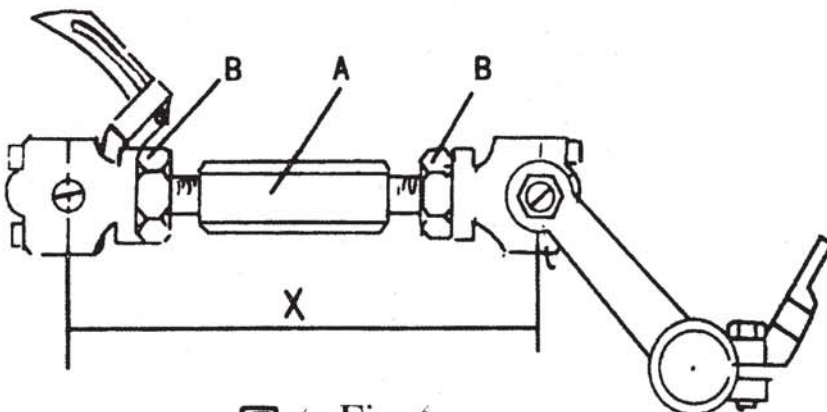
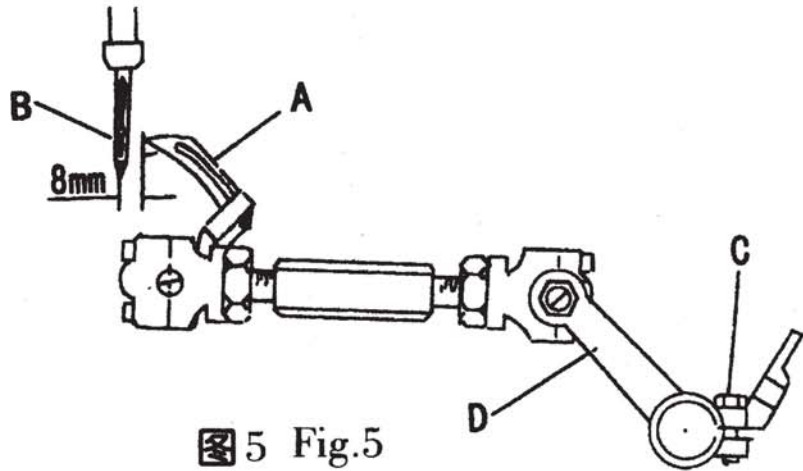
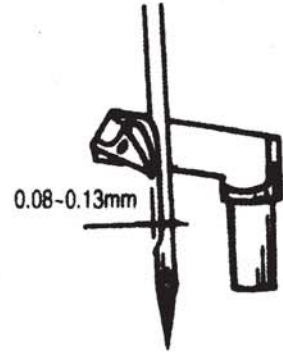
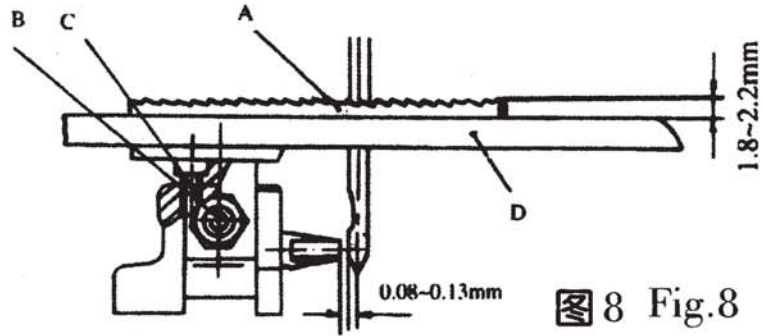

图4 Fig.4
图5 Fig.5
图6 Fig.6
图8 Fig.8
(一) 首先调节连接杆(图4, A),使两球轴承(X)中心线间距为69.8毫米($2\frac{3}{4}$ 英寸), 调节时拧松二个螺母(B), 顺旋或倒旋连接杆(A)使(X)距离符合要求后再锁紧螺母。
(1). First set the looper connecting rod(A, Fig. 4), so the distance (X, Fig. 4) between the centerlines of the two ball joints is 69.8mm(1 3/4 min.). For adjustment loosen the two nuts(B) and turn connecting rod(A) forward or backward as required to obtain specified dimension. Retighten nuts(B). Caution: The left nut has a left hand thread.
带轮, 使针杆下移至最低点, 同时弯针退至最右边位置, 此时弯针(图5, A)尖和机针(B)的中心线距离为8毫米($5/16$ 英寸)。调节时拧松弯针外曲柄的两只螺钉(C), 左右转动弯针外曲柄(D), 调节至需要的尺寸后再拧紧螺钉(C)。
(2). Rotate the machine pulley clockwise by hand, so that the needle bar moves to the lowest point, at the same time the looper moves back to its farthest position to the right. The distance from the point of the looper (A, Fig. 5) to the centerline of the needle is 8mm($5/16$ in). For adjustment, loosen two screws(C) in the looper drive lever, rotate looper drive lever(D) left or right as required to obtain specified dimension and retighten screws(C).
(三) 继续转动皮带轮, 使弯针(图5, A)从右向左运动时靠近机针背面的凹形处通过而不得接触, 其间隙为0.08毫米-0.13毫米(0.003至0.005英寸)(图6所示)。调节时拧松弯针小偏心摇杆(图4, C)的螺钉(图4, D), 按需要把弯针向前或向后摆动从而转动弯针架轴(图4, E)再拧紧螺钉(D)。
(3) Rotate the machine pulley so that the looper moves from right to left. The looper point should pass as close possible to the back of the needle without contacting 0.08-0.13mm(.003 to .005in.) (clearance). For adjustment loosen screw(D, Fig. 4) in the looper eccentric fork (C) and turn rocker shaft (E) on the looper rocker with looper forward or backward as required. Retighten screw (D).
缝纫时由于袋边接接处厚度不一致，往往会使机针刺在缝料厚薄交界处而弯曲或发生故障，而机针挡块(图5E)则可起到保护作用。两者的间隙为0.08~0.13毫米(0.003至0.005英寸)，(图8所示)。调整时将皮带轮按工作方向转动，使机针挡块靠近机针，拧松牙架上(图5, F)紧定螺钉(G)，移动机针挡块(E)至合适间隙后再拧紧螺钉(G)。
The needle will bend or break when abutting bags made of different thickness of sewing material. And the needle guard (E, Fig. 5) will protect the needle. The clearance between the needle and the needle guard is 0.08 -0.13mm(.003 to .005in.)(Fig.8). For adjustment, rotating pulley in the direction of operating, so that the needle guard moves against the needle. Loosen set screw(G) on feed dog holder(Fig.5), move the needle guard accordingly. Retighten screw (G).
根据缝料质量与厚度确定送料牙(图8, A)高度。对于布袋、塑料编织袋等薄料，齿面应高出针板(D)上平面约1.8毫米(0.070英寸)，麻袋约2.2毫米(0.090英寸)，调整时先将送料牙行至最高点，卸下针板和送料牙。按需要的高度调节支承螺钉(C)后，重新装上送料牙和针板，并固紧六角螺母(B)。
The height of the feed dog(A, Fig. 8) are determined by the quality and thickness of the sewing materials. For closing thin material such as bags made of cloth and plastic, teeth should project 1.8mm(.070in.) above the throat plate(D) top surface, and for sacks about 2.2mm(.090) above the throat plate. For setting, move the feed dog to the highest position, remove throat plate and feed dog, adjust the supporting screw (C) as required, remount the feed dog and throat plate. Retighten screws (B).